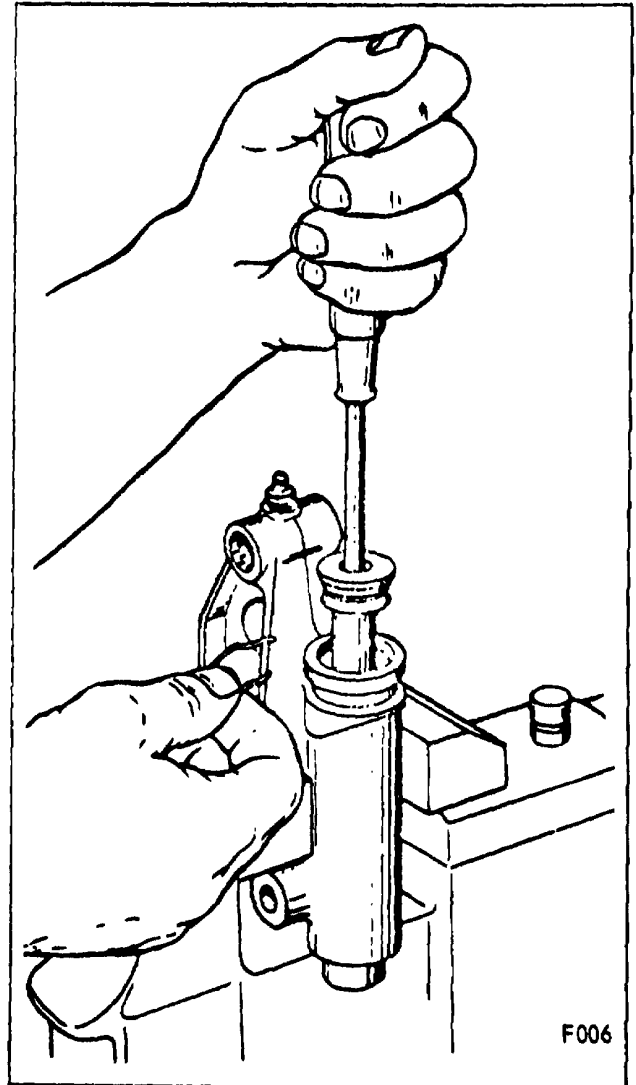

Figure 9.
**CAUTION:** Internal parts are spring-loaded and may be released faster than the serviceman's reflexes. Therefore, personal harm may result from looking directly into the cylinder bore when removing the lock wire or attempting to removed a seized component. Free one side of stop, then complete removal as illustrated in Figure 9,